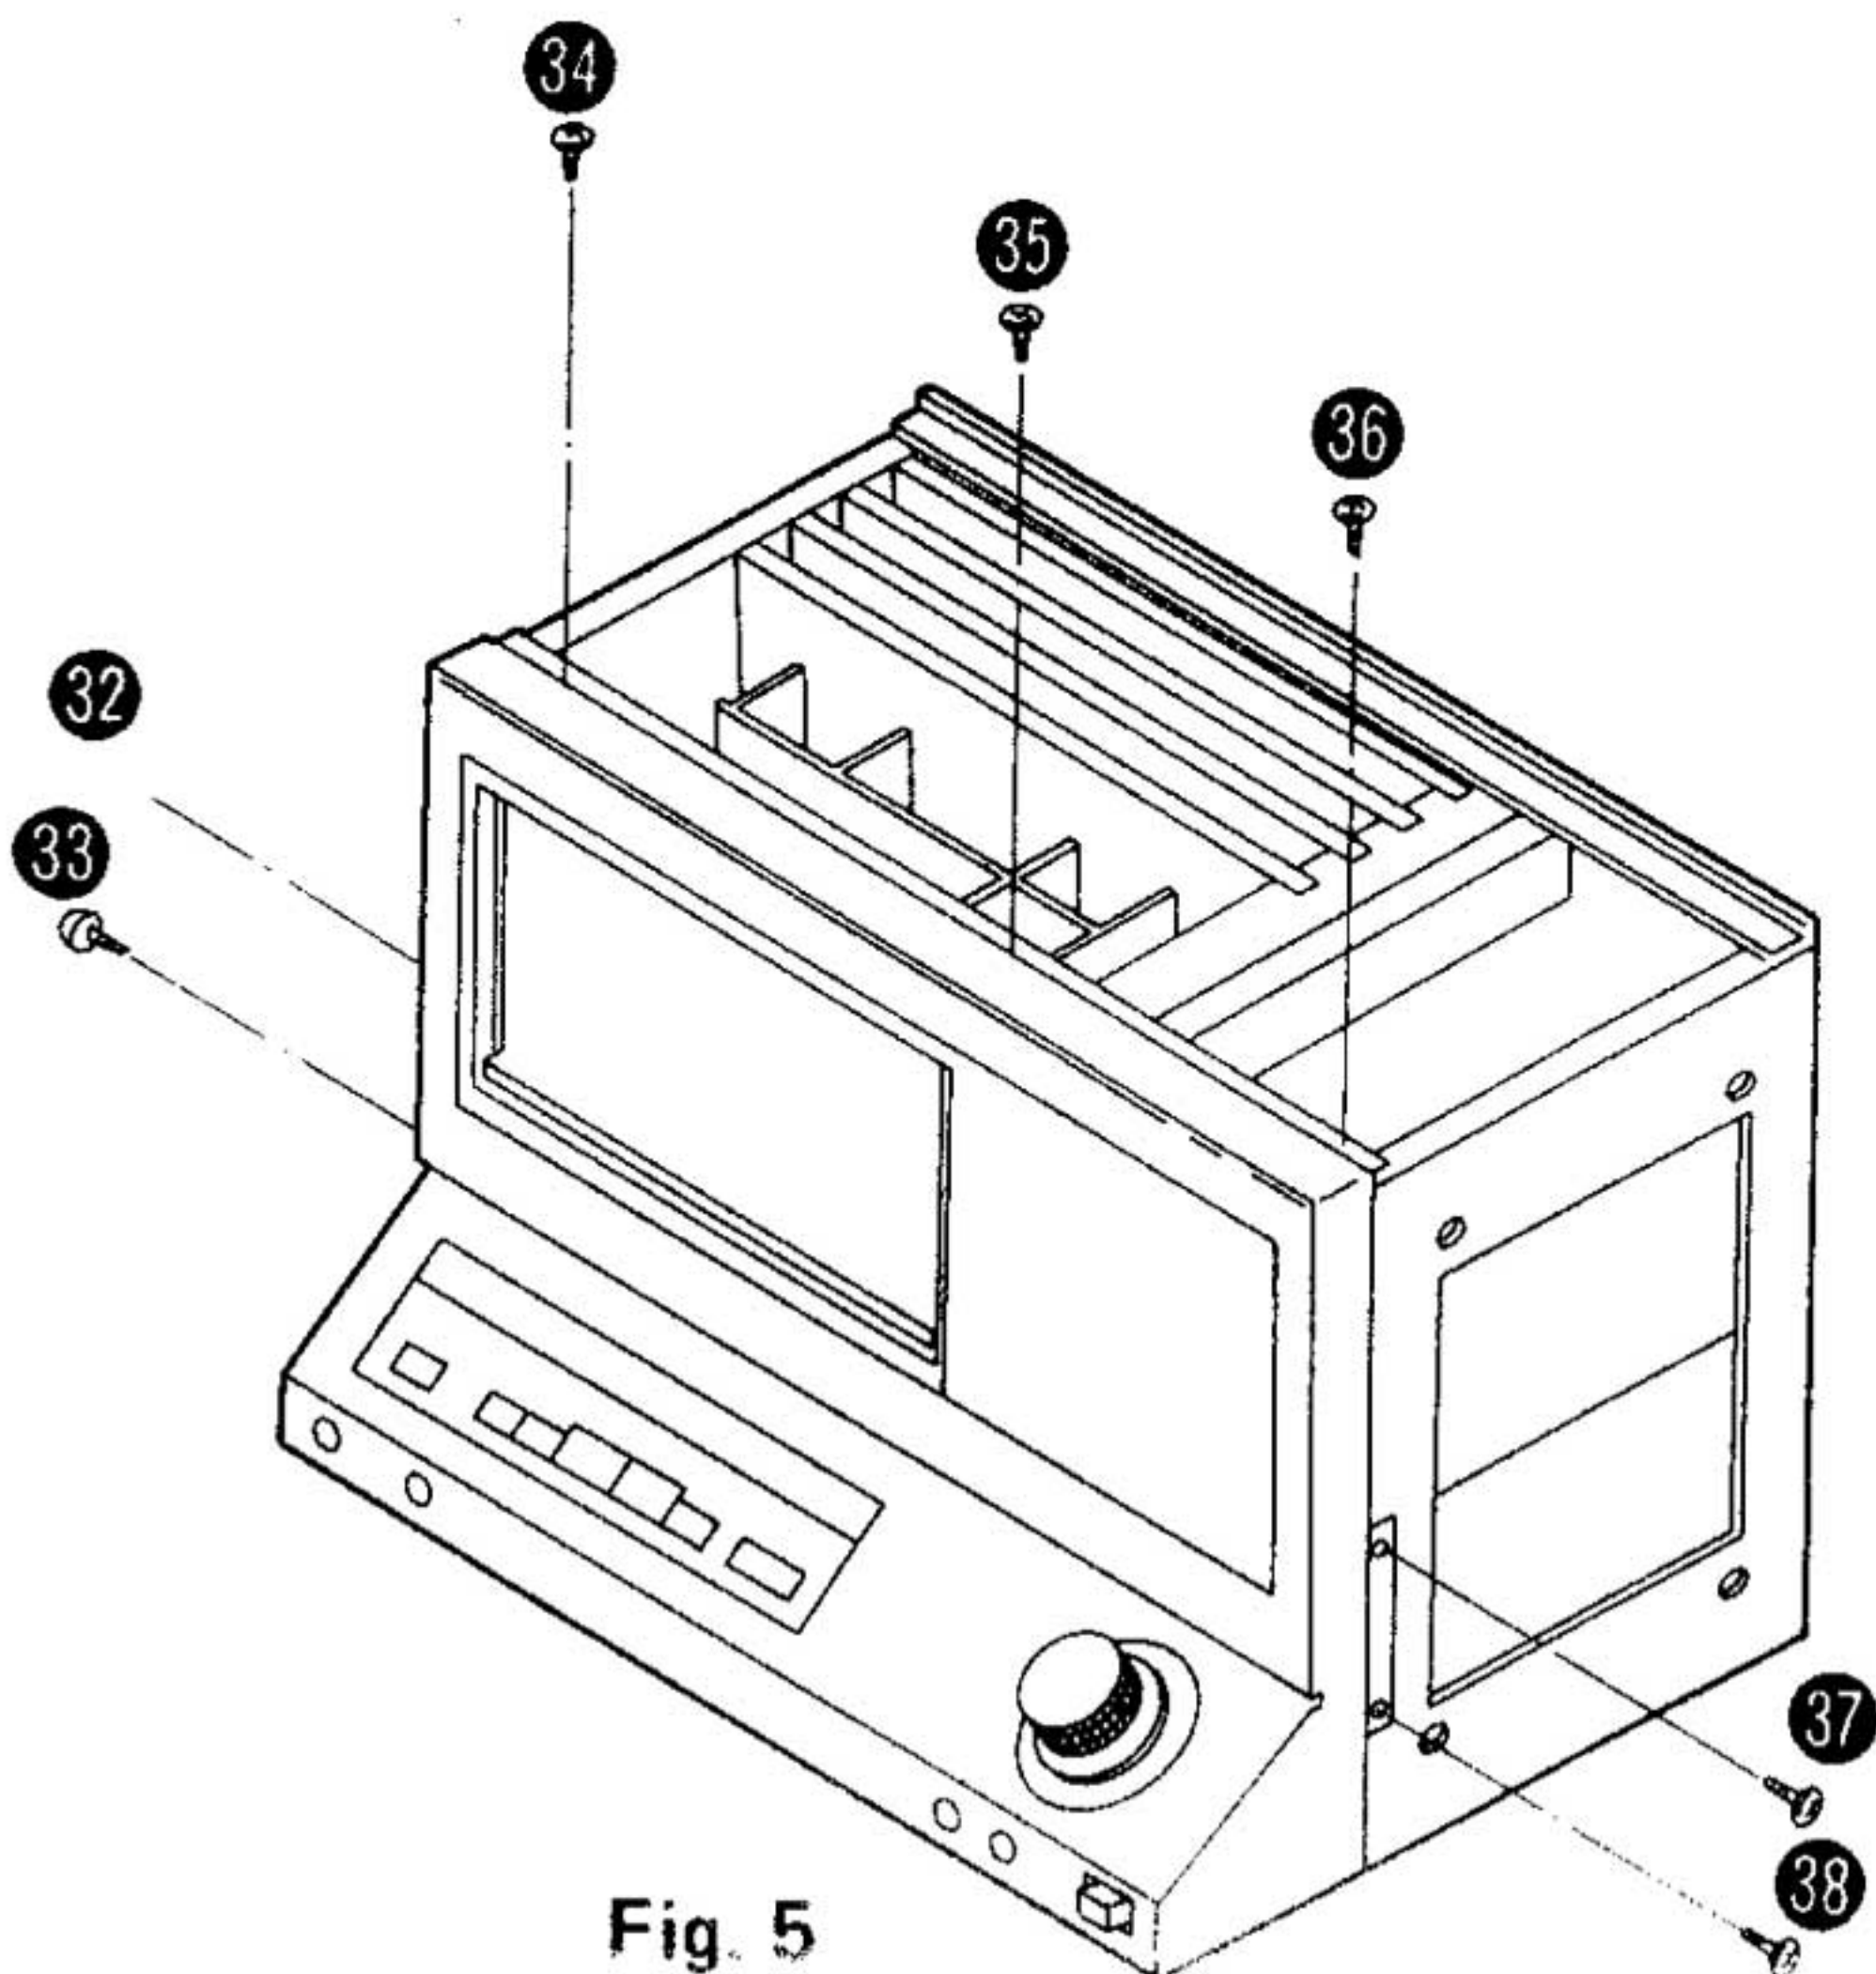

Fig. 5
3. Remove the 7 setscrews (Fig. 5 : ㉔ ~ ㉙) of the front panel.